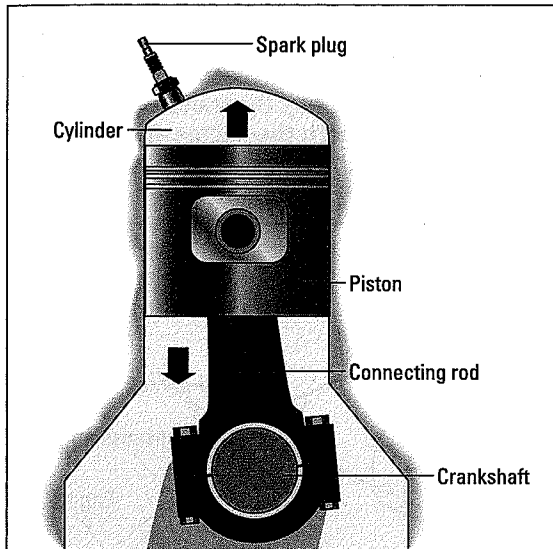

Figure 4-3:
6. This fuel/air mixture passes into the cylinders in your engine. A cylinder, as shown in Figure 4-3, is a hollow pipe with one open end and one closed end. Inside each cylinder is a piston, which fits very snugly and moves up and down. The piston moves *up*, trapping the fuel/air mixture in the upper part of the cylinder and compressing it into a very small space.